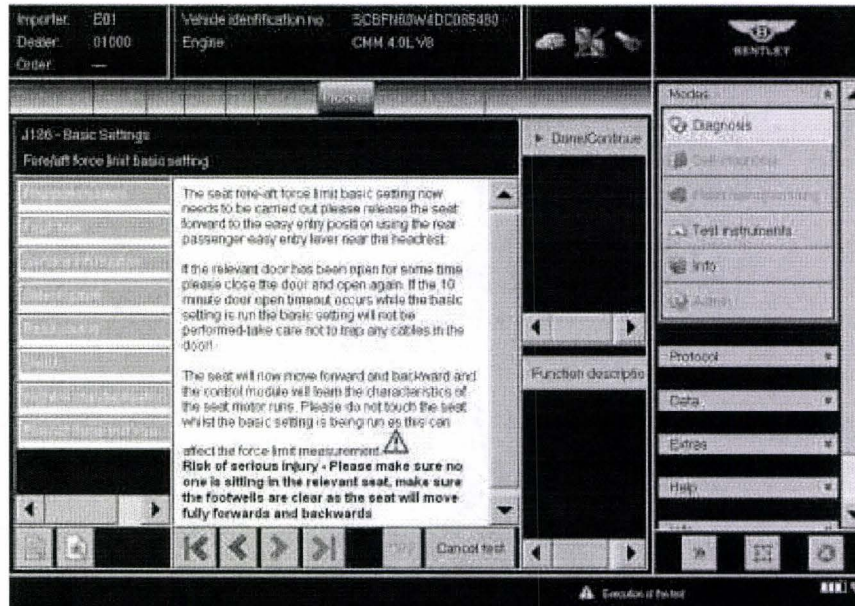

Figure 7
14. Once the five axis have been initialised then the *Foreaft force limit basic setting* will be performed Note: Release the seat forward as described in the on screen test (see Figure 7) and then select Done/Continue to start this procedure, the seat will then motor forward and back automatically performing the force limit basic setting